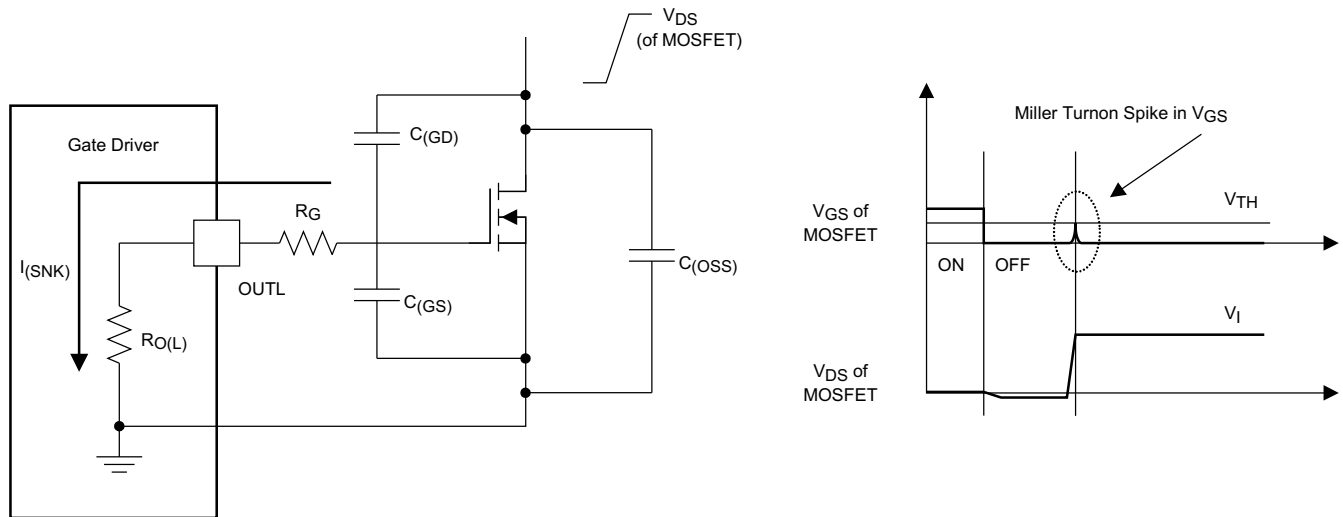

Figure 6-6. Very-Low Pulldown Impedance in UCC27511A-Q1, 4-A and 8-A Asymmetrical Drive (Output Stage Mitigates Miller Turnon Effect)
An example of a situation where the Miller turnon effect is a concern is synchronous rectification (SR). In an SR application, the dV/dt occurs on the MOSFET drain when the MOSFET is already held in off state by the gate driver. The current discharging the C_(GD) Miller capacitance during this dV/dt is shunted by the pulldown stage of the driver. If the pulldown impedance is not low enough then a voltage spike can result in the V_{GS} of the MOSFET, which can result in spurious turnon. This phenomenon is shown in Figure 6-6. The UCC27511A-Q1 device offers a best-in-class, 0.375-Ω (typ) pulldown impedance boosting immunity against Miller turnon.